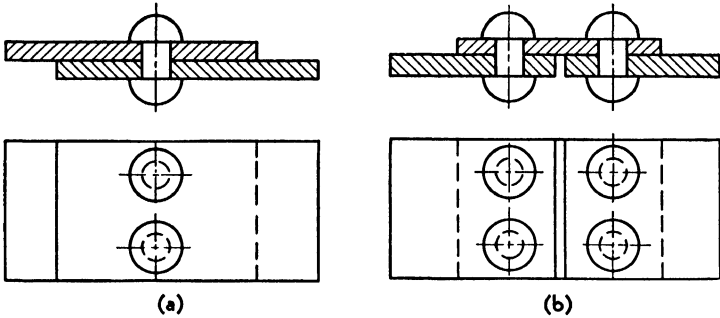

Fig. 232.—Types of riveted joints: (a) lap joint; (b) butt joint.
**C. Riveted Joints.** There are two main classifications of riveted joints: lap and butt joints, as illustrated in Fig. 232.